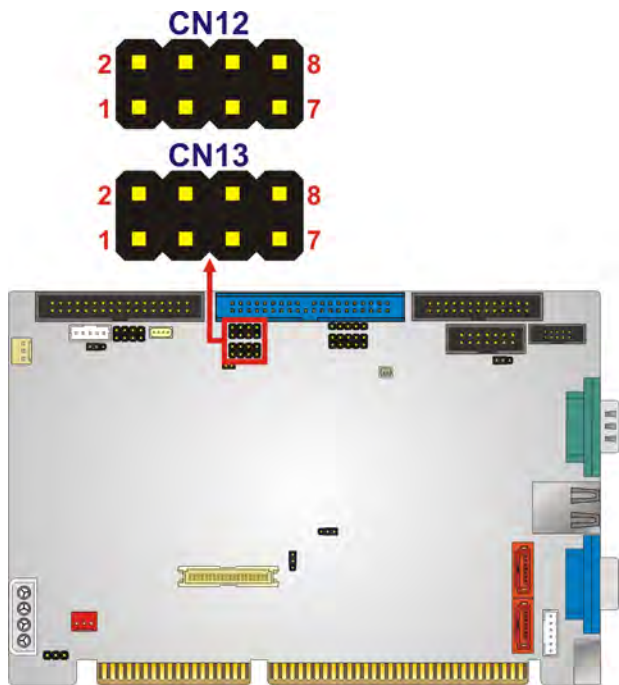

Figure 3-19: USB Connector Pinout Locations
See Figure 3-19
- CN Location:** See Figure 3-19